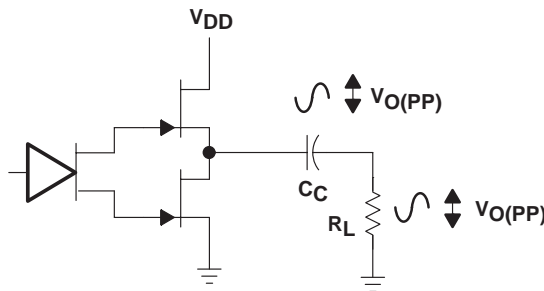

Figure 35. Single-Ended Configuration
In a typical computer sound channel operating at 5 V, bridging raises the power into an 8-Ω speaker from a single-ended (SE) limit of 250 mW to 1 W. In sound power that is a 6-dB improvement, which is loudness that can be heard. In addition to increased power, frequency response is a concern; consider the single-supply SE configuration shown in Figure 35. A coupling capacitor is required to block the dc offset voltage from reaching the load. These capacitors can be quite large (approximately 40 μF to 1000 μF) so they tend to be expensive, occupy valuable PCB area, and have the additional drawback of limiting low-frequency performance of the system. This frequency limiting effect is due to the high pass filter network created with the speaker impedance and the coupling capacitance and is calculated with equation 2.